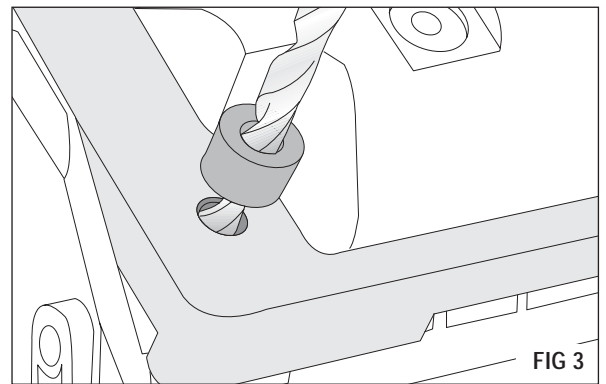

FIG 3
3. Drill through holes on each side of the fixture until the drill-stop reaches the fixture surface (FIG 3).